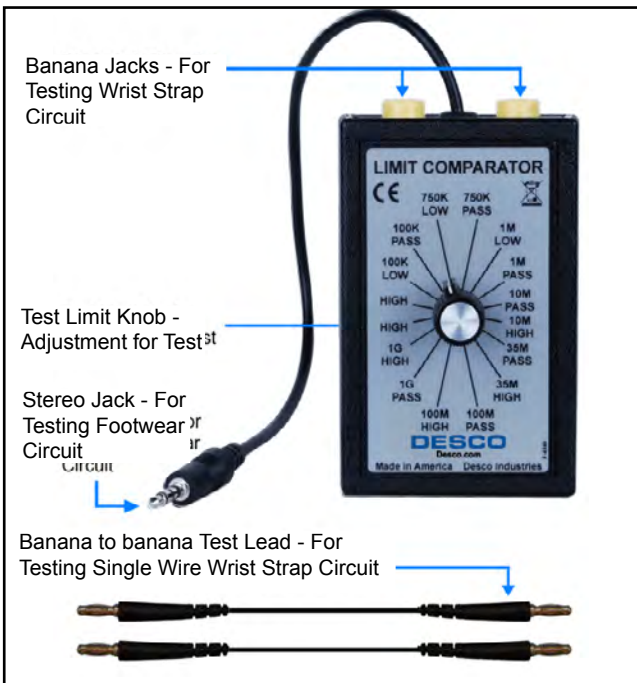

Figure 2. Limit Comparator features and components
**Testing Wrist Strap Circuit, refer to figure 2**